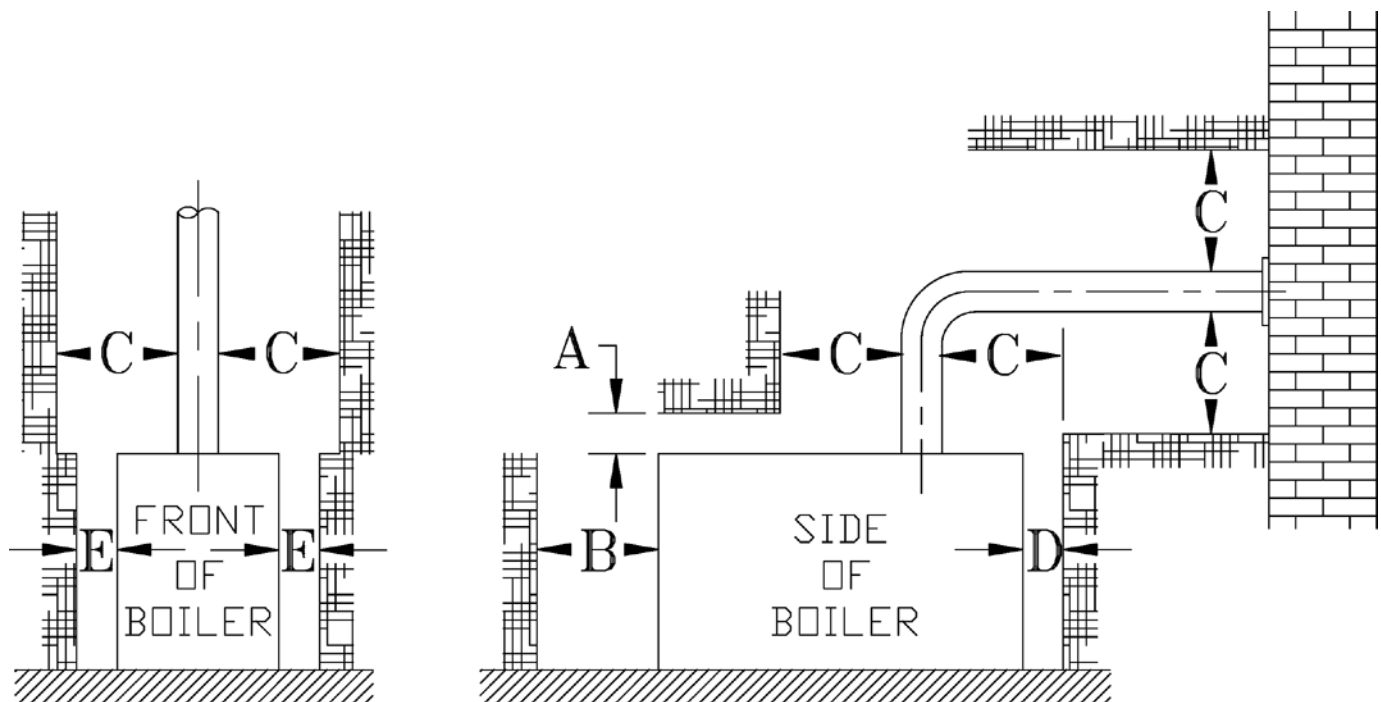

Figure 3: Minimum Installation Clearances To Combustible Materials (Inches)
5. **For minimum clearances** to combustible materials. See Figure 3.